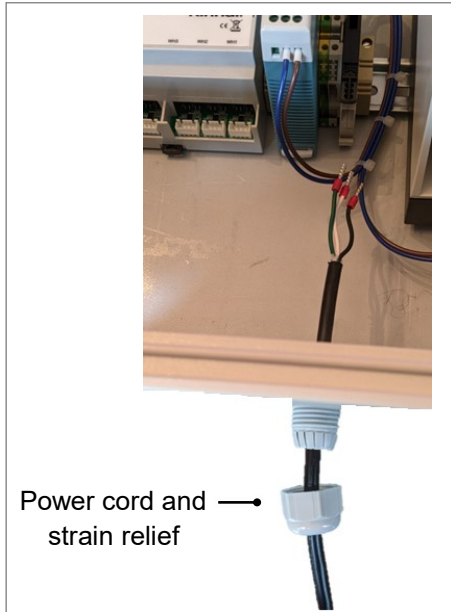

Fig 33. Power Cord and Strain Relief
1. Route one end of the supplied 6 ft. (2 m) power cord into the enclosure using the supplied strain relief (Fig 33). A customer-supplied hard wire power supply may also be used.